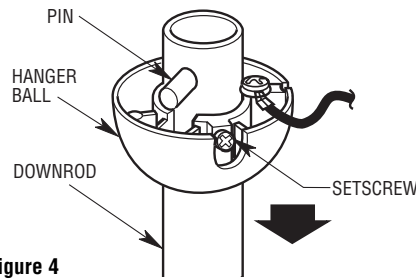

Figure 4
- 2. Remove the hanger ball by loosening the setscrew in the hanger ball until the ball falls freely down the downrod (Figure 4). Remove the pin from the downrod, then remove the hanger ball. Retain the pin and hanger ball for reinstallation in Step 7.